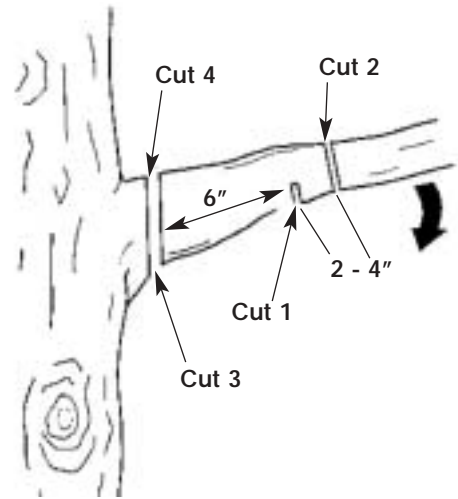

Fig. 7
1. Make the first cut six inches from tree trunk on the underside of the limb. Use the top of the guide bar to make this cut. Cut a third of the way through the diameter of the limb (Fig. 7).